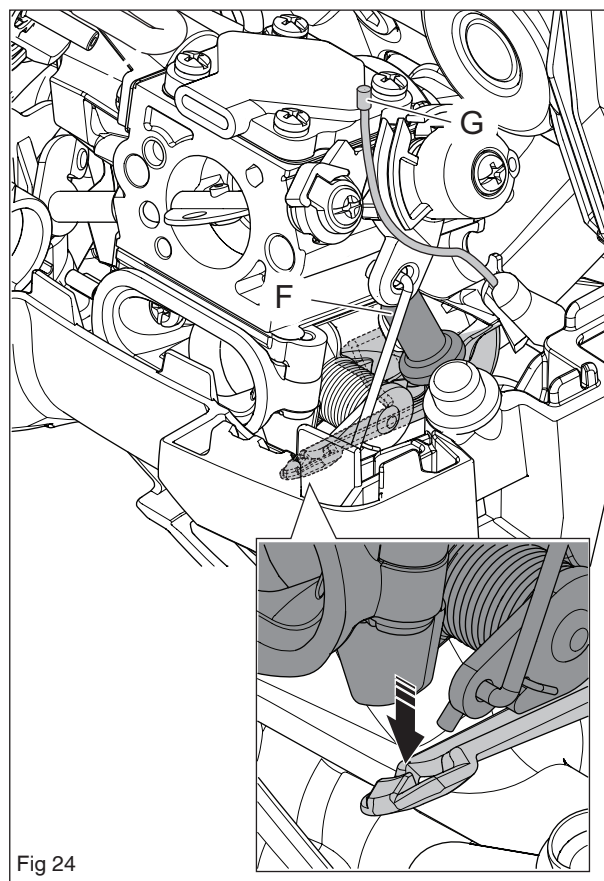

Fig 24
1. Fit the lower screws of the intake system using the POP-out hole and the fuel hose hole. Fit the other screws. Fit the fuel hose and the throttle cable to their attachments. See figure 24.
3. **NOTE!** Press the lug on the carburettor in place on its bracket on the partition wall. See figure 24.